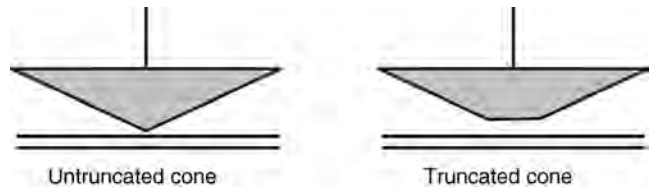

FIGURE 1.6 Cone and plate viscometers.
■ Cone and plate viscometers (Figure 1.6) use a cone of very shallow angle in bare contact with a flat plate. With this system, the shear rate beneath the plate is constant. A graph of shear stress (torque) versus shear rate (angular velocity) gives the viscosity.